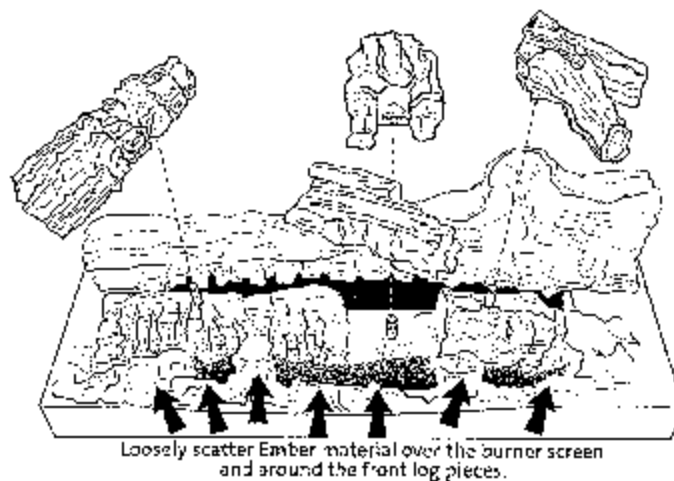

Figure 23. Install the Center, Left and Right Logs on the pegs.
2. Set the Right, Left, and Center Logs on the appropriate pegs as shown in fig. 23.